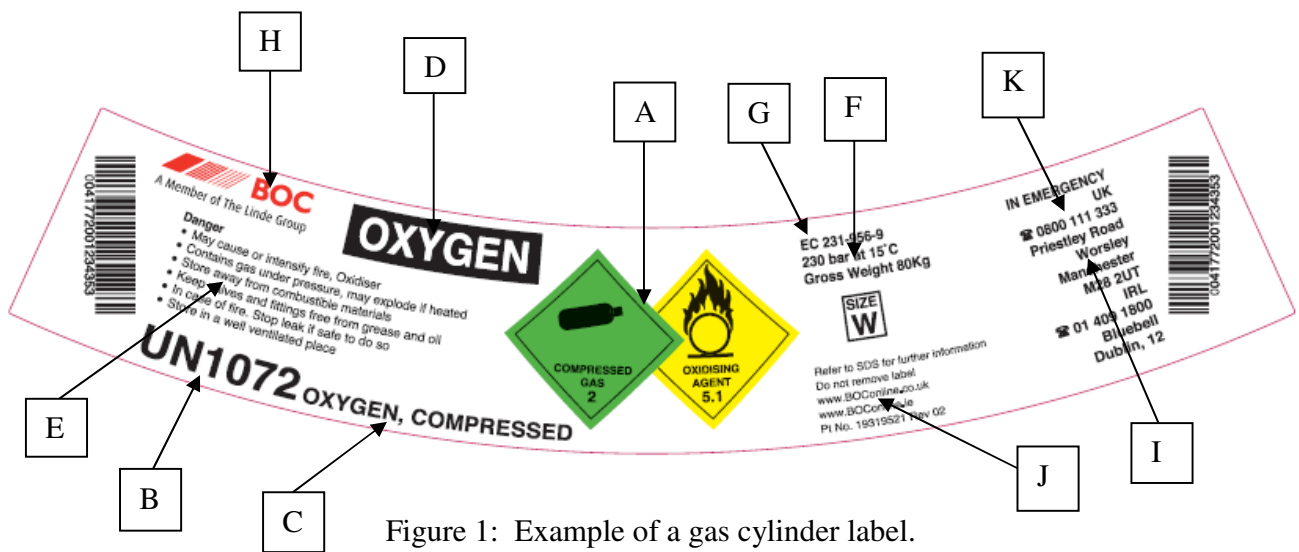

Figure 1: Example of a gas cylinder label.
All gas cylinders are required to be labelled to indicate the contents of the cylinder, and include text that is required to comply with the Classification, Labelling and Packaging Regulations (2), as well as the requirements of the transport regulations, including the The Carriage of Dangerous Goods and use of Transportable Pressure Equipment Regulations (1). Figure 1 is an example of a typical label for a pure product, with an explanation as to the various items that are on the label. It must always be remembered that the label is the primary means of identifying the contents of the cylinder. The colour of the cylinder is only a guide.